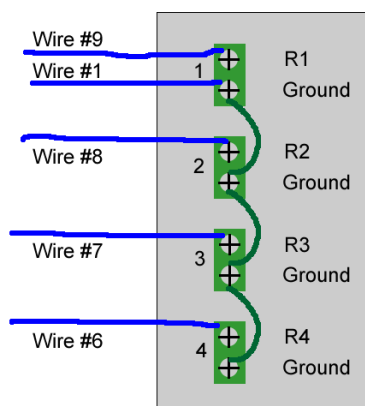

Fig 2. Wire connections for multi-position MX Series II Modules. Wire colors will vary.
- Using the provided jumper wires, jumper the ground terminals of event relays 2 (R2), 3 (R3), and 4 (R4), as shown in figure 2.
- (3) Connect the wires of the interface cable to the instrument with 4-line BCD control as shown in figure 2.
- (4) A 4-line BCD generic time programming example follows. (Note- the actual programming will vary depending on the manufacturer of the instrument used.)